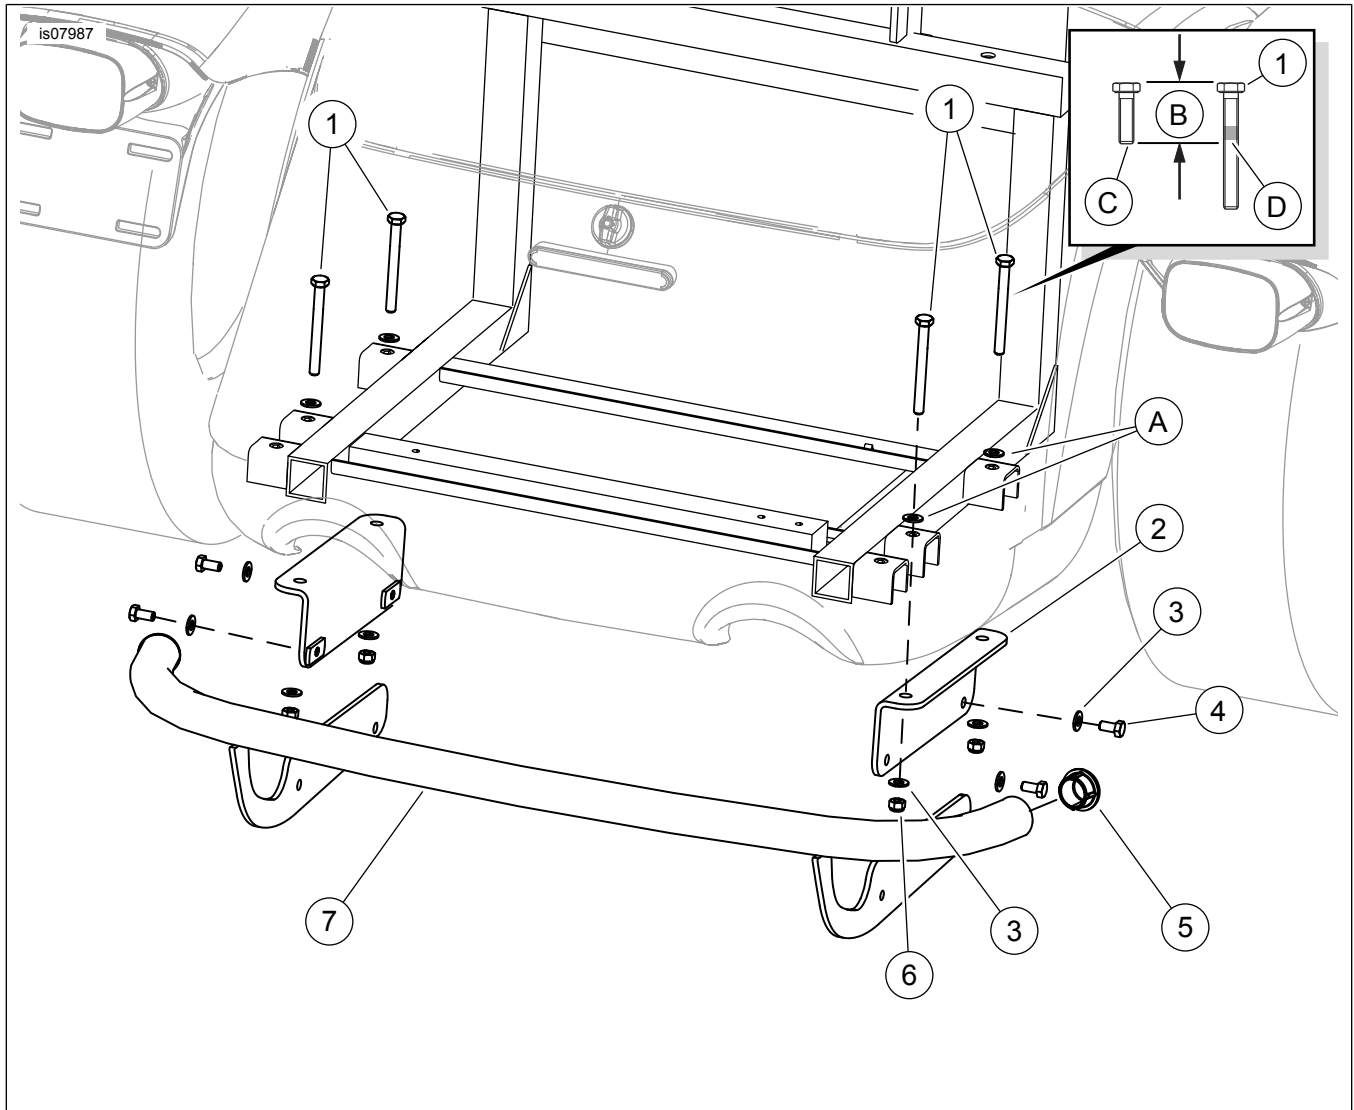

Figure 1. Kit Contents: Trike Rear Guard
1. See Figure 1. Locate four screws with washers (A) in floor of trunk compartment that hold the body to rear frame. Leaving the washer in place, remove one of the screws. Save screw for next step, then discard.
2. Apply threadlocker to long screws (1).
Orient mounting brackets as shown in Figure 1.